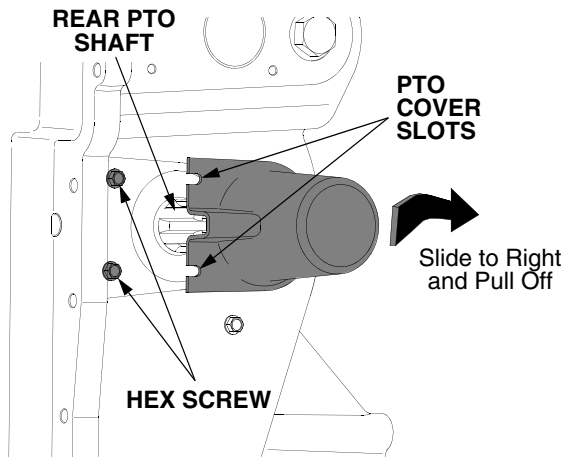

Figure 22
- Loosen the two screws on the left side of the cover. Refer to Figure 22.
- Slide the cover to the right until the slots of the cover are free of the screws and pull the cover off. See Figure 22.
- When finished using the rear PTO, slide the cover fully onto the shaft; then slide the cover to the left until the slots are underneath the screw heads. Tighten the screws to secure the cover. Refer to Figure 22.